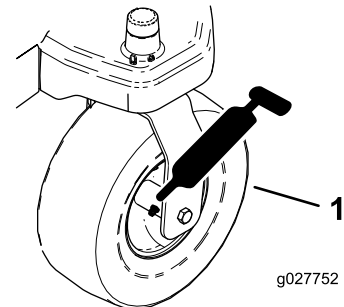
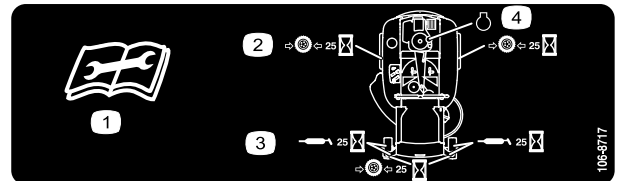

Figure 22
Figure 23
3. Clean the grease fittings (Figure 22 and Figure 23) with a rag.
4. Connect a grease gun to each fitting (Figure 22 and Figure 23).